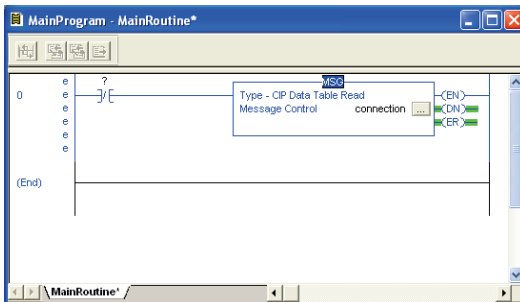

Figure 73: MainRoutine
- e) Click “OK” to close the MSG Configuration dialog. At this stage, MainRoutine should look like Figure 73.